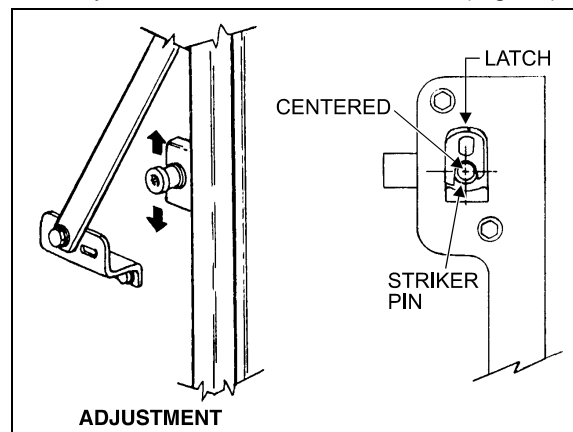

FIGURE 49: BAGGAGE COMPARTMENT DOOR 18068
5. Install both striker pins, bring the door close to them, and adjust the height of pins so they are well centered with latches (Fig. 49).